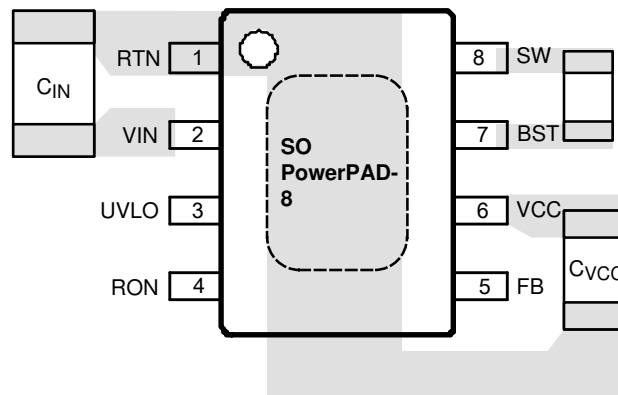

图 10-1. Placement of Bypass Capacitors
1. C_{IN} : The loop consisting of input capacitor (C_{IN}), V_{IN} pin, and RTN pin carries switching currents. Therefore, the input capacitor should be placed close to the IC, directly across V_{IN} and RTN pins and the connections to these two pins should be direct to minimize the loop area. In general it is not possible to accommodate all of input capacitance near the IC. A good practice is to use a 0.1- μ F or 0.47- μ F capacitor directly across the V_{IN} and RTN pins close to the IC, and the remaining bulk capacitor as close as possible (see Figure 10-1).
2. C_{VCC} and C_{BST} : The V_{CC} and bootstrap (BST) bypass capacitors supply switching currents to the high and low side gate drivers. These two capacitors should also be placed as close to the IC as possible, and the connecting trace length and loop area should be minimized (see Figure 10-1).